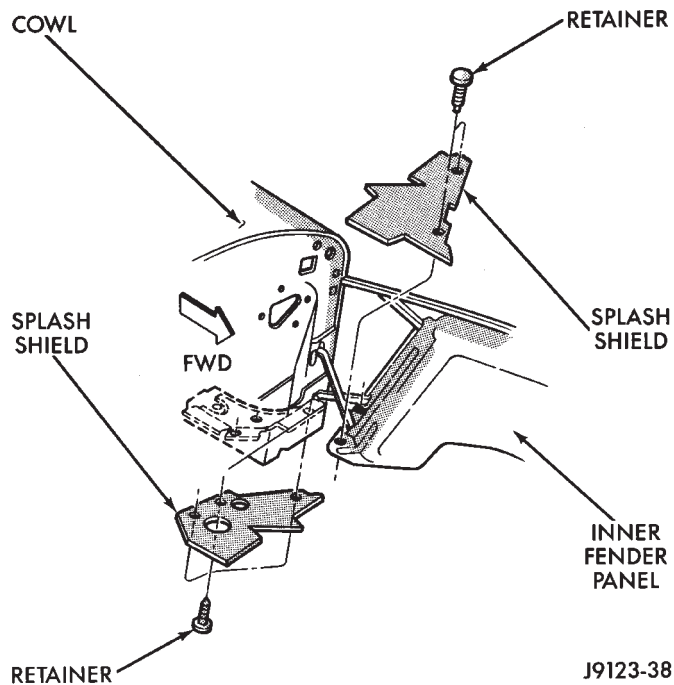

Fig. 42 Fender Inner Splash Shields
- (1) Remove the splash shield retainers from the cowl panel and inner fender panel (Fig. 42).
- (2) Remove the splash shields from the inner fender and cowl panel (Fig. 42).
- (1) Position the splash shields on the inner fender panel rear flange and on the cowl panel extension (Fig. 42).
- (2) Install the splash shield retainers (Fig. 42).